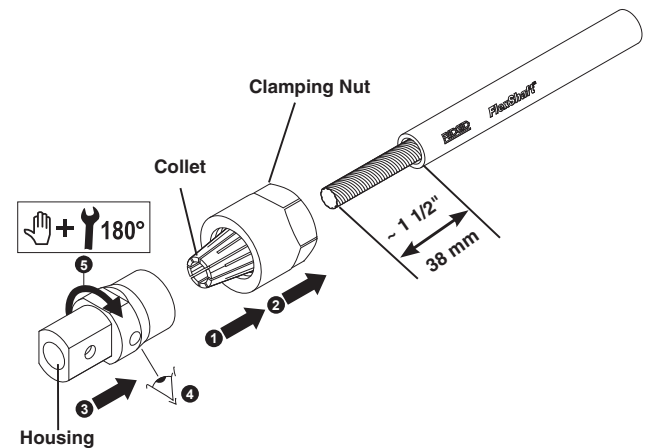

Figure 22 – Installing Repair Coupling
8. Insert cable through clamping nut and collet assembly ② (see Figure 22).
9. Fully insert cable end against stop in housing and hand tighten the clamping nut to the housing ③.
10. Confirm that the cable end is full inserted in the housing by looking into the inspection hole in the housing ④. The grey/metal color of the cable should be visible.
11. Securely tighten clamping nut an additional $\frac{1}{2}$ turn, using 1" and $\frac{13}{16}$ " wrenches ⑤. Confirm that the cable is secure in the repair coupling.